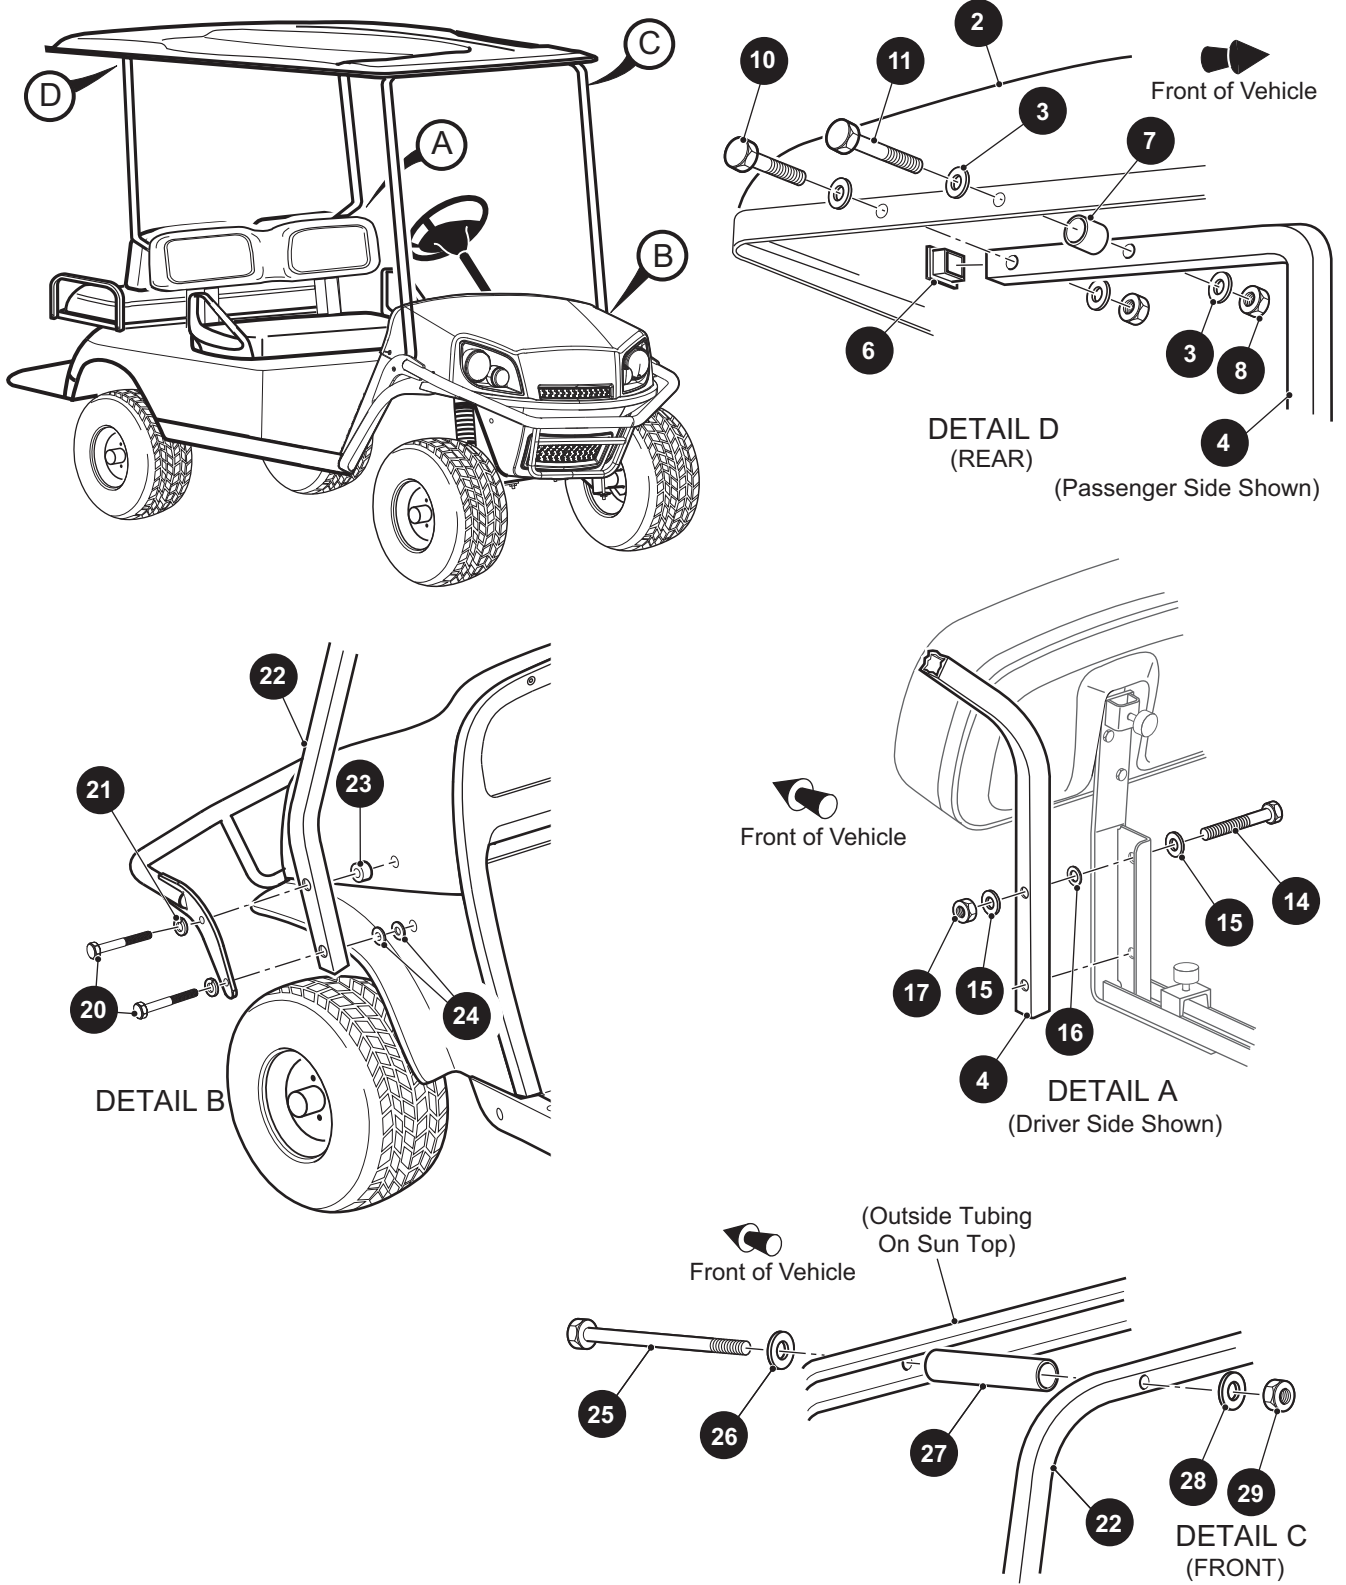

Fig. 1 Sun Top
SUN TOP (REF. FIG. 1)
1. At driver side of vehicle, align the holes in the rear strut (4) with the holes in the seat back support bracket, being sure that the open end of the strut faces the front of the vehicle as shown (See Detail A) (Ref. Fig.1)
2. Insert bolts (14) through the holes in the seat back support bracket. Place washers (15) between the seat back support bracket and the rear strut.
3. Secure with washer (15) and lock nut (17) at outer side of rear strut as shown. *Finger tighten hardware to allow for adjustment.*